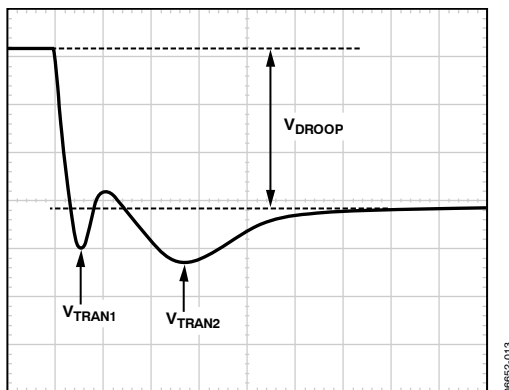

Figure 16. Transient Setting Waveform
1. With the dynamic load set at the maximum step size, expand the scope time scale to either 2  $\mu$ s/div or 5  $\mu$ s/div. This may result in a waveform that has two overshoots and one minor undershoot before achieving the final desired value after  $V_{DROOP}$  (see Figure 16).